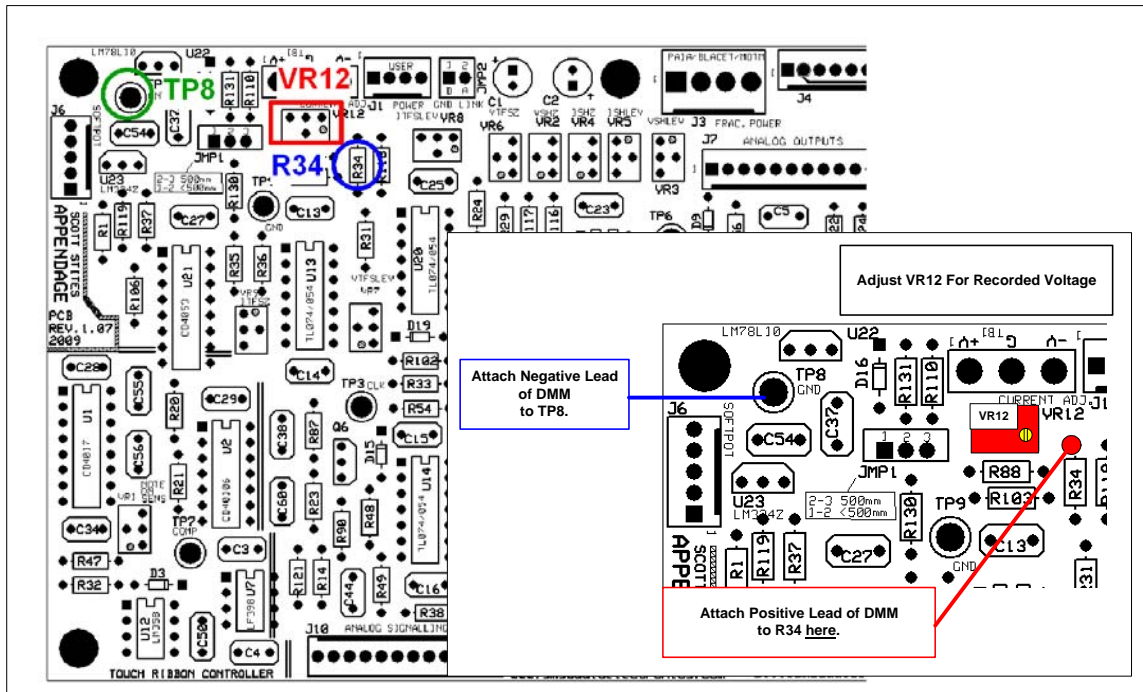

Figure 9-1: Ribbon Current Calibration Points
4. Connect the positive lead of the DVM to the end of R34 indicated in **Figure 9-1**.